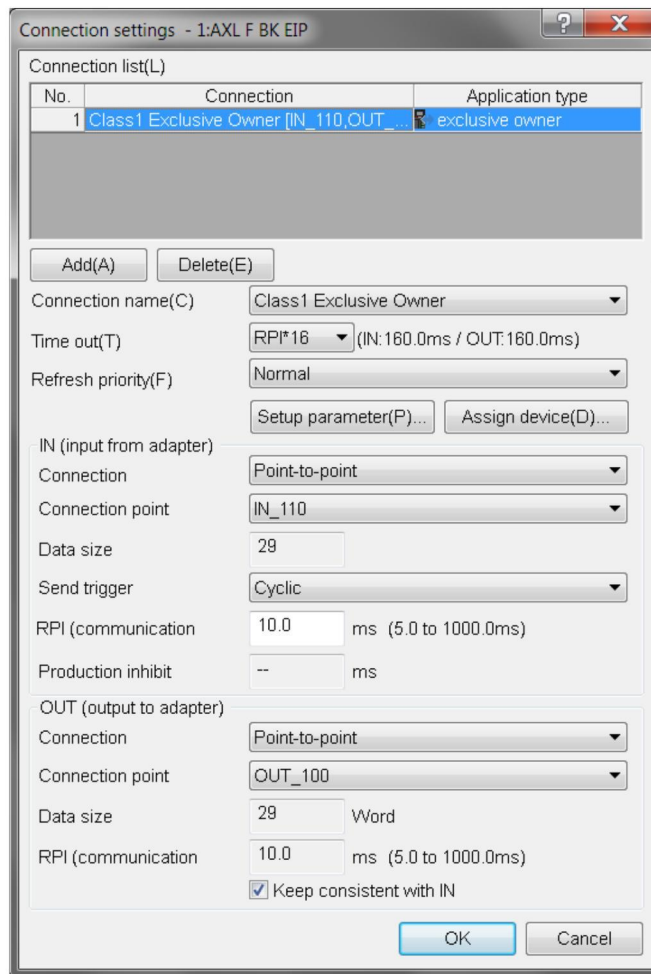

Figure 4-20 Set connection parameters for bus coupler AXL F BK EIP
- Set the EIP connection parameters for the bus coupler AXL F BK EIP according to Figure 4-20. Reserve 29 words for both the input area and the output area.